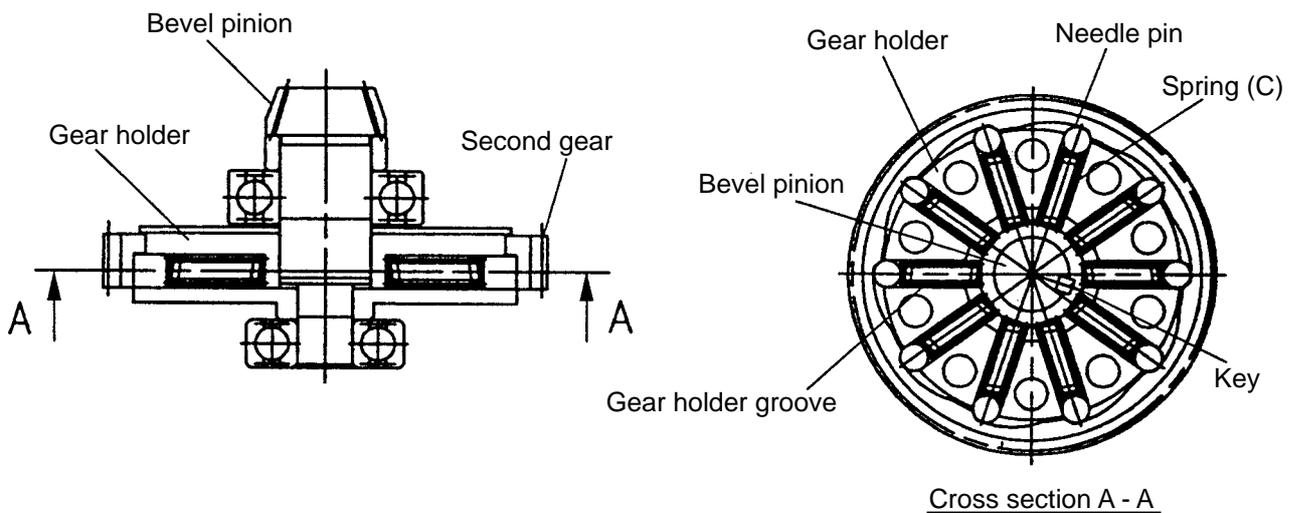

Fig. 7
The slip clutch mechanism is described below with reference to Fig. 7. The bevel pinion and the gear holder are coupled together by the key and press-fitting. Spring (C) and needle pins are housed in elongated grooves of the gear holder. The needle pin is pressed against the inner face of second gear by spring (C) to allow idle rotation of the second gear relative to the gear holder. When an excess torque is exerted on the bevel pinion shaft, the needle pin is raised upon the projection of the second gear against the load of spring (C) to allow idle rotation of the second gear. With the arrangement, the clutch slips when an excessive torque is applied to the working tool as when the drill bit contacts steel bar/wire in the concrete, protecting the operator from unexpected motion of the side handle.